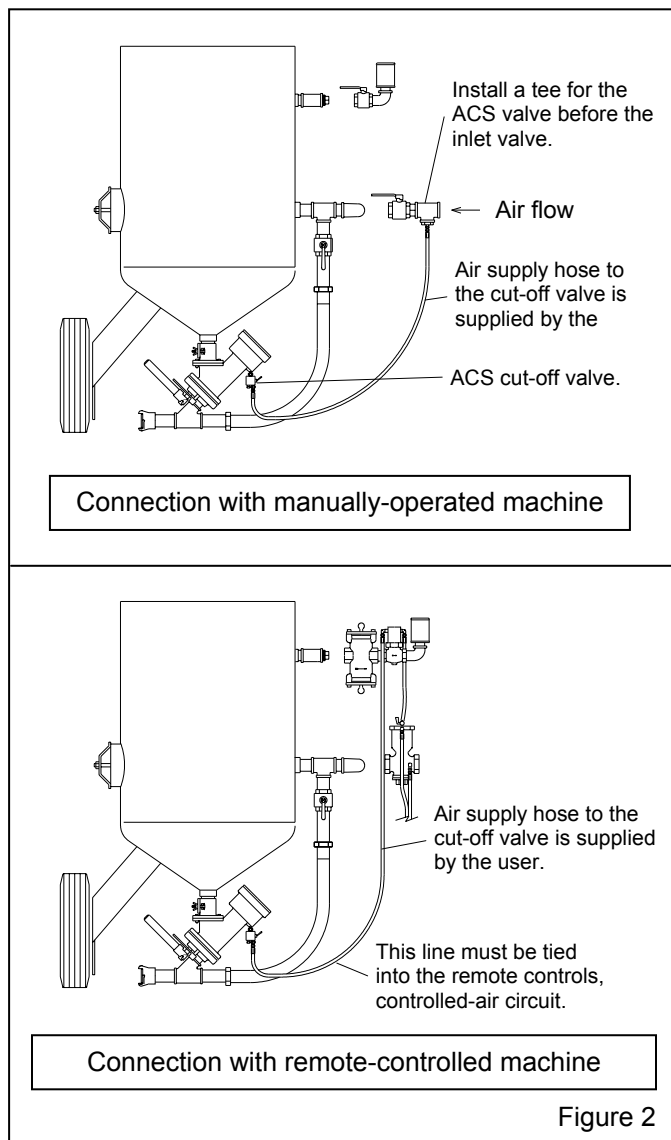

Figure 2
If the valve is supplied as part of a Clemco remote system, it will be controlled with a Clemco Abrasive Control Switch (ACS) that is mounted on the remote control handle. This setup enables the operator to shut off the abrasive flow, allowing air alone to exit the nozzle, which is used to clear abrasive from the blast hose, or for blow-down. If the Sentinel valve will not be used with a Clemco ACS system, an ACS Valve must be installed on the Sentinel as shown in Figure 2. Use the ACS instead of the metering handle to shut off the abrasive flow. The ACS is shown under accessories in Section 9.2.
2.8.2 If other machines or control systems are used, the valve should have been ordered with the ACS. Note: the ACS valve and fittings are shown under accessories in Section 9.2. Refer to Figures 2 while making the following changes:
2.8.2.4 If the Sentinel is installed on a manually-operated blast machine, such as in an automated system, connect an air line between the "IN" port fitting and a tee installed before the machines air-inlet valve. Refer to the top illustration in Figure 2.
2.8.2.5 If the Sentinel is connected to a remote system, connect the air line from the "IN" port fitting to a controlled air line (one that is on the controlled side of the remote control air line, which will pressurize when the control handle is pressed). One method is to tee off the inlet or outlet valves of the remote system. Doing so will close the valve when the remote controls depressurize the blast machine, resulting in a smoother start when the machine is re-pressurized. Refer to the bottom illustration in Figure 2.
3.3.1 The ACS valve is "OFF" (no abrasive) when the toggle is toward the nozzle ("EXH" port) or down if installed on the Sentinel valve as shown in Figure 2. Abrasive flow is "ON" when the toggle is pointing back away from the nozzle ("CYL" port) (up if it is as shown in Figure 2).